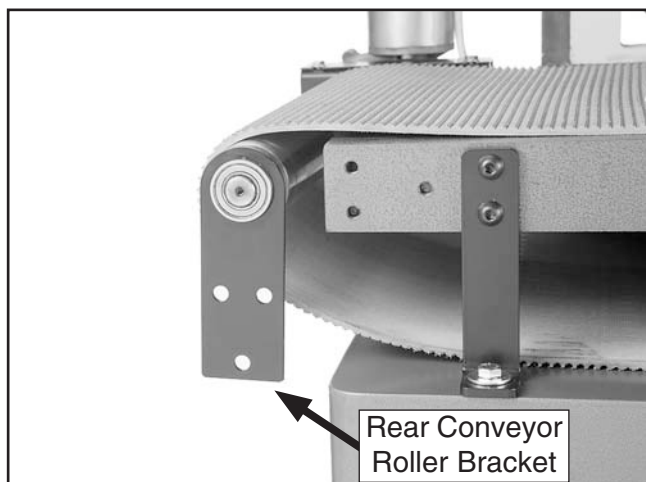

Figure 43. Rear conveyor roller bracket unattached.
6. Use a 5mm hex wrench to remove the three M8-1.25 x 18 button head cap screws securing left rear conveyor roller bracket, leaving the rear conveyor roller assembly and bracket in place (see **Figure 43**).